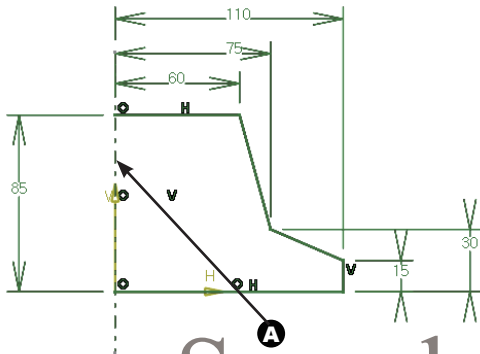

Fig 6-23 The First Sketch
1. Create a sketch on the xy plane as shown in Fig 6-23. The axis **A** is created with the **Axis** command in the **Profile** toolbar.